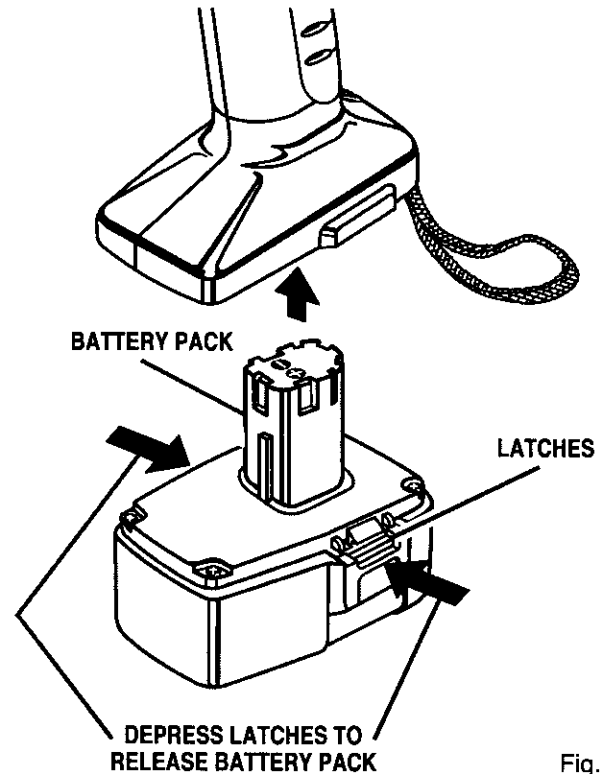

Fig. 3
- Place battery pack in your drill. Align raised rib on battery pack with groove inside drill. See Figure 3.
- Locate latches on side of battery pack and depress to release battery pack from your drill. See Figure 3.